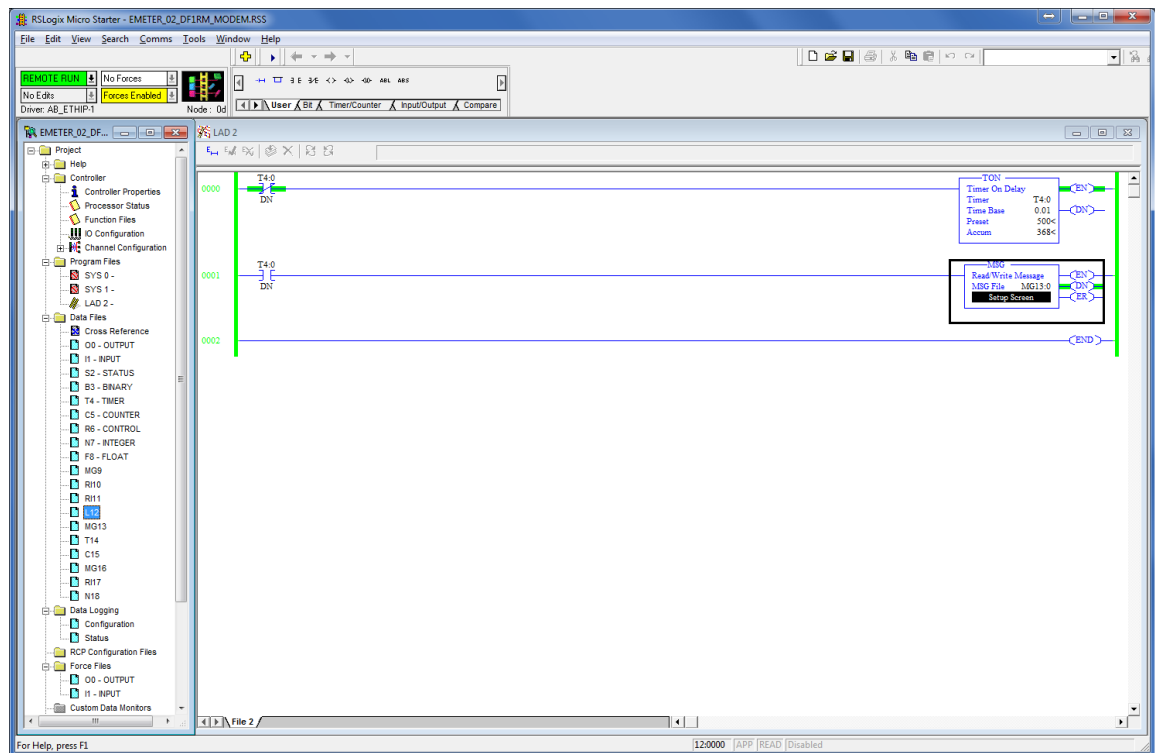

Figure 3. RsLogix Programming Environment.
Within a MicroLogix (or other Allen Bradley) PLC, communication setup is performed within the RsLogix Programming Environment. Figure 3 displays a screen snapshot of a simple ladder logic program that is designed to poll the two (2) totalization and two (2) flow-rate registers of an EtherMeter and deposit the data into the L12:xx long integer (32-bit) registers: